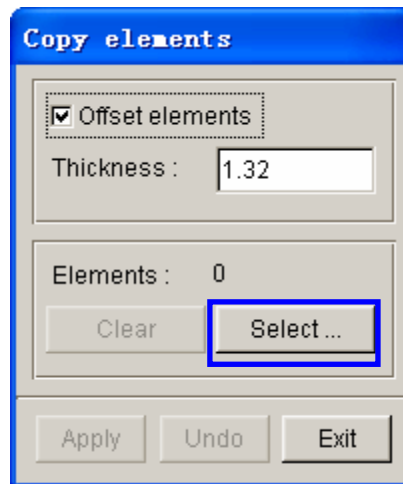

Figure 5.48 Before selecting elements
- Click **DISPLAYED** to select all elements in the display area. Then, toggle on the **Exclude** option, as illustrated in Figure 5.48.
16. Pick an element on the binder surface. You observe the highlighted elements in binder surface are removed. The program prompts that 4464 elements are selected. See Figure 5.48.